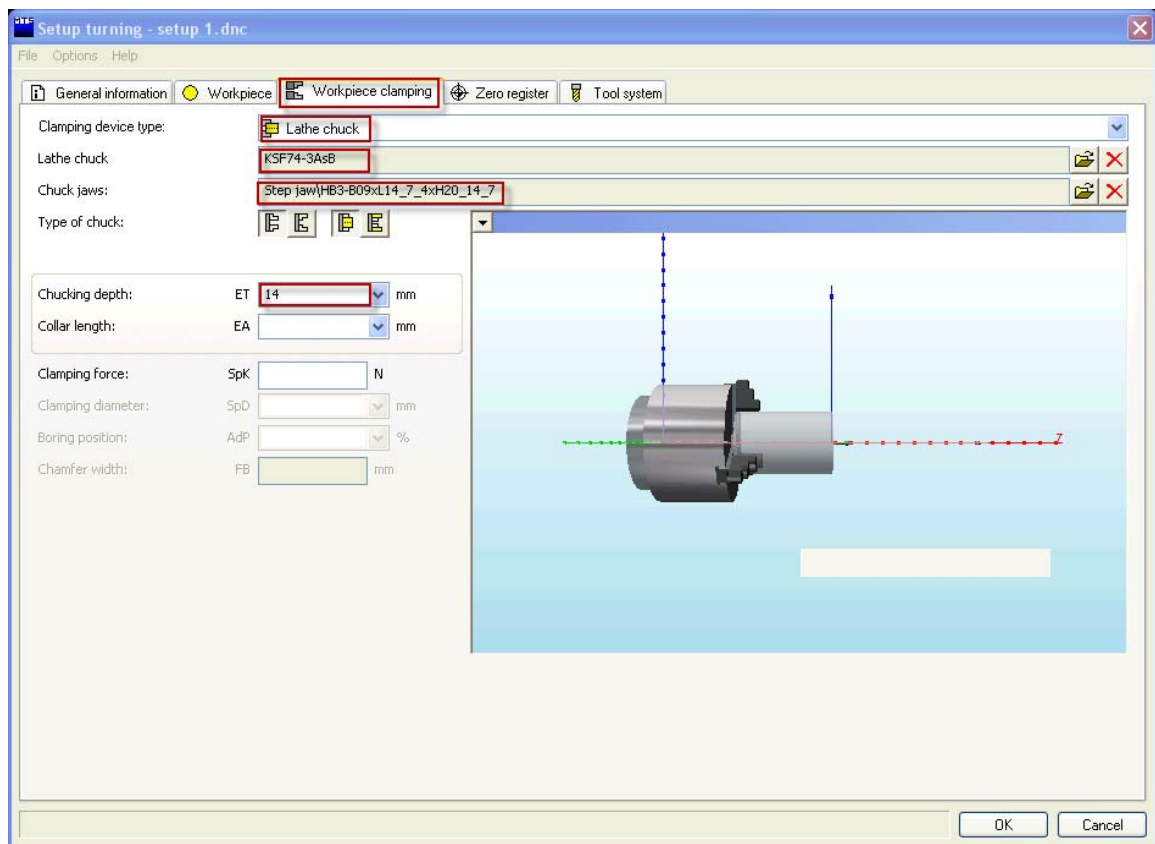

Fig. 2.12 Workpiece clamping tab
5. Click on tab 3: **“Workpiece clamping”** to fill in the clamping device information as shown in Fig. 2.12.